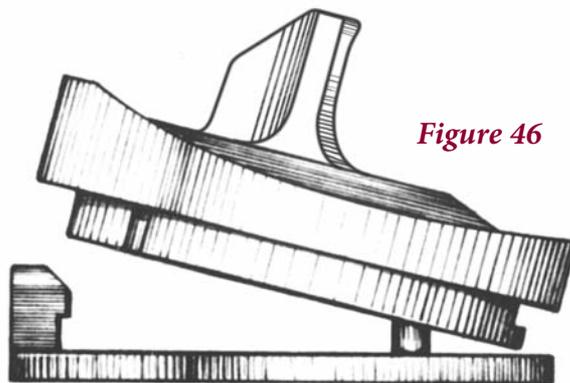

Figure 46
- ▶ Replace the Trial Femoral Component on the femur. Assemble a Tibial Bearing Insert Trial to the Tibial Trial Baseplate by first positioning it posteriorly on the baseplate and then fully seating it anteriorly (**Figure 46**). Reverse the steps to disassemble the insert trial from the baseplate.